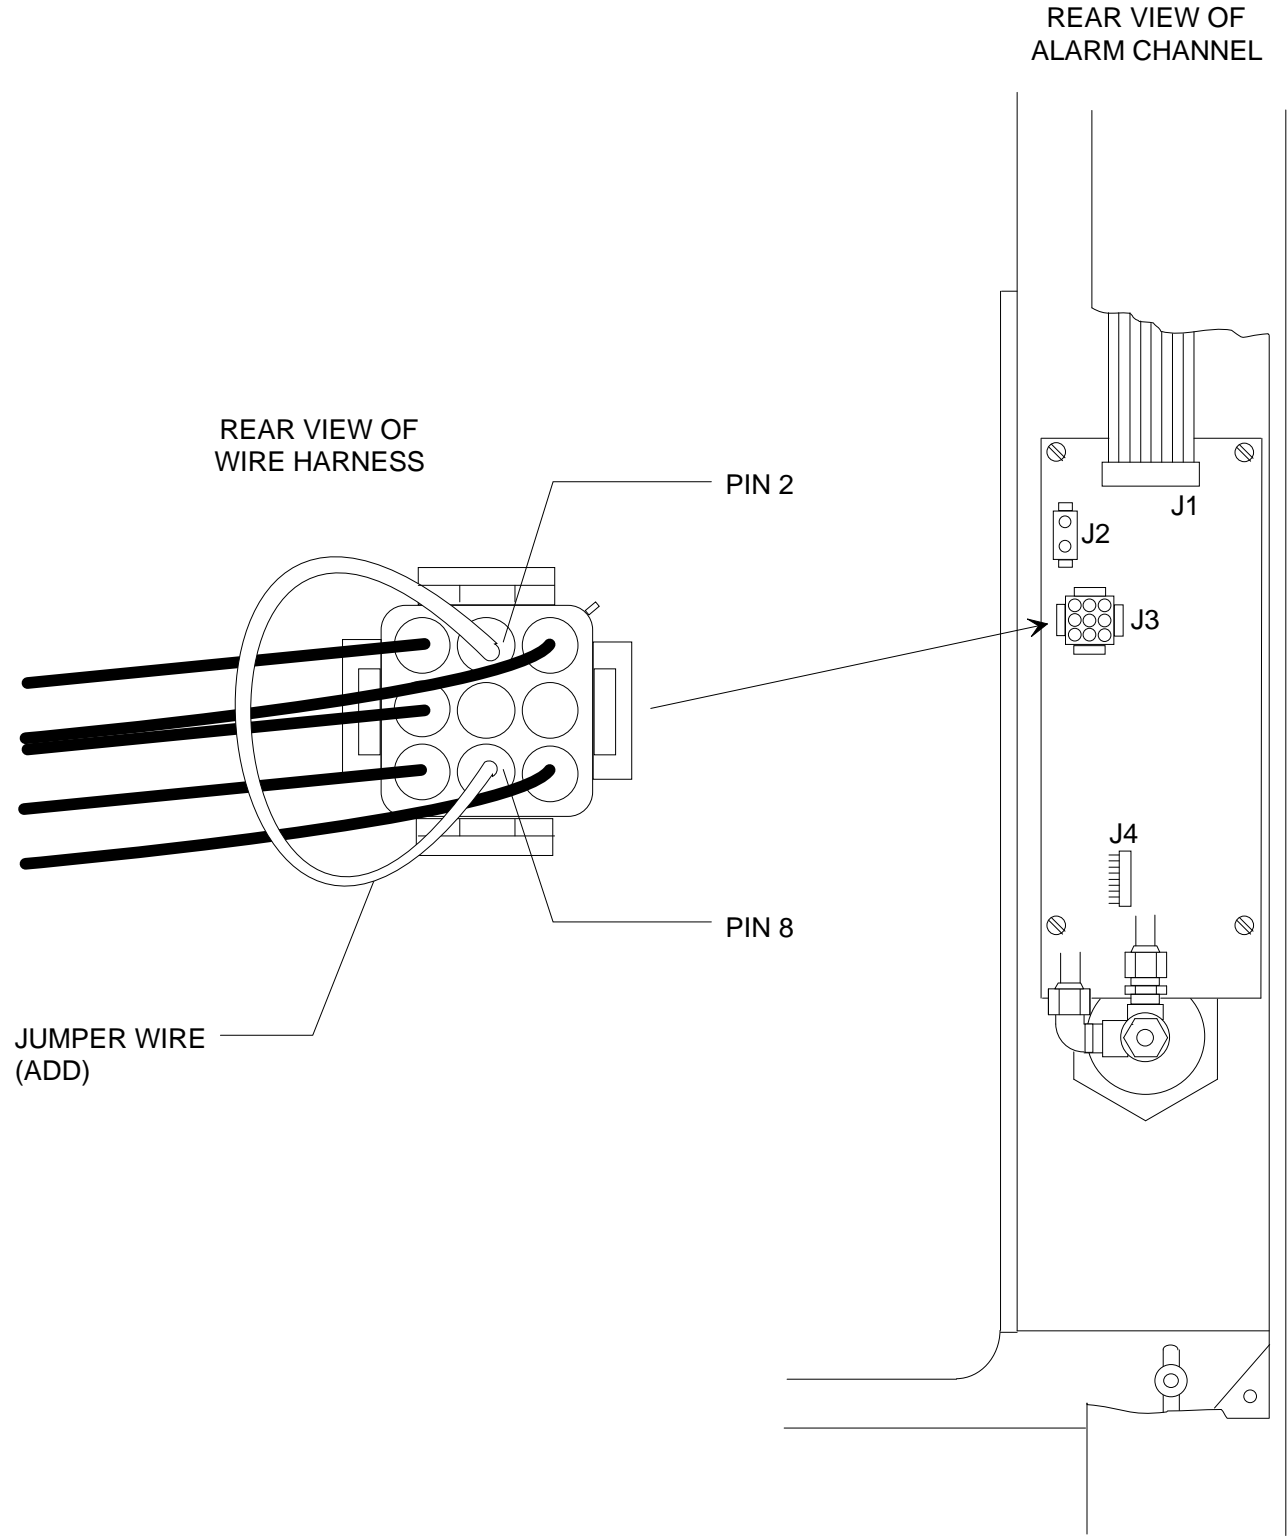

Figure 1: JUMPER WIRE INSTALLATION
5. Disconnect the wire harness from J3 on the alarm channel PCB assembly. See Figure 1.
6. Insert one end of the jumper (supplied with this procedure) into Pin 2 of the wire harness connector as shown in Figure 1. (Pin 2 is between the blue and black wires.)
7. Insert the other end of the jumper into Pin 8 of the wire harness connector as shown in Figure 1. (Pin 8 is between the orange and red wires.)